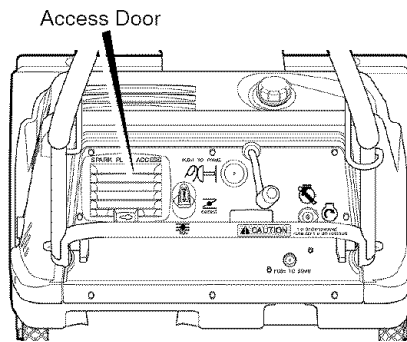

Figure 18
1. Open the spark plug **access door** on the control panel (Figure 18).